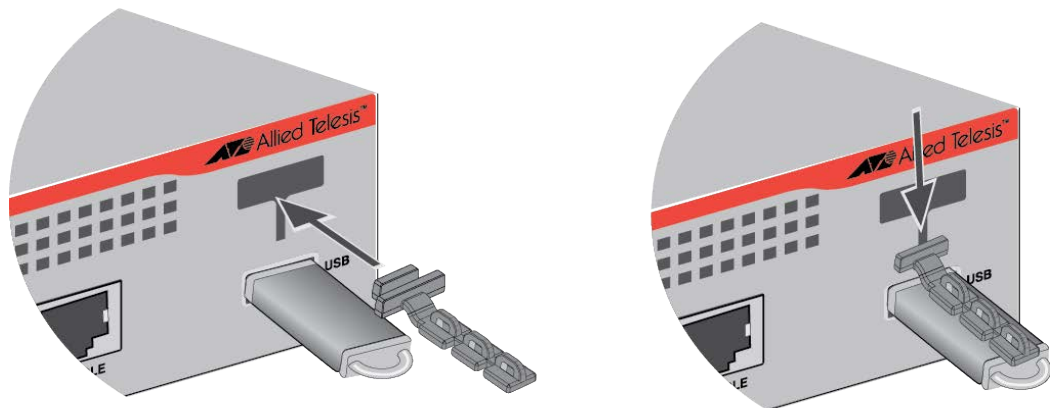

Figure 60. Installing the USB Retainer
4. Install the USB retainer in the slot above the USB device. Refer to Figure 60.